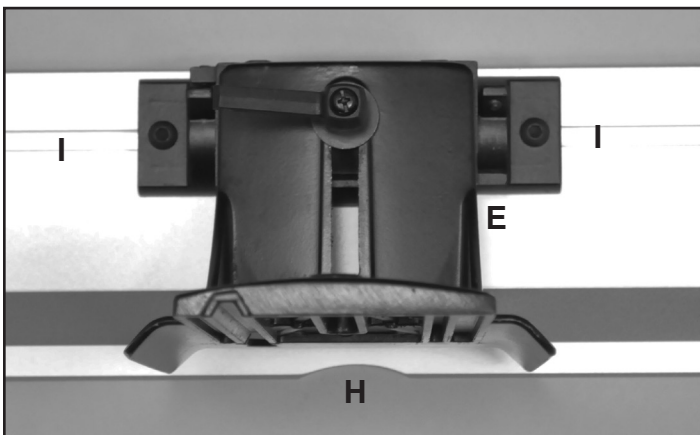

**FIG. 2**
2. Assemble the Fence Sliding Bracket (E) to the Fence (F). The Square Nut (G) should fit in the groove of the fence. FIG. 2.